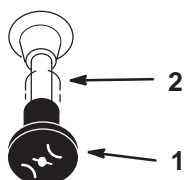

Figure 16
- After the engine starts, move the choke to off (Fig. 16). If the engine stalls or hesitates, move the choke back to on for a few seconds. Then move the throttle lever to desired setting. Repeat this as required.